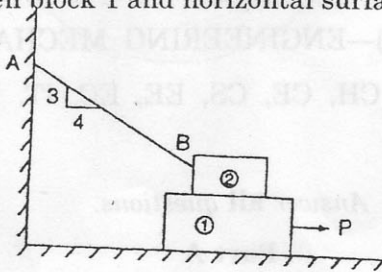

Figure 2
- (b) A block of weight $W_1 = 1290 \text{ N}$ rests on a horizontal surface and supports another block of weight $W_2 = 570 \text{ N}$ on top of it as shown in Fig. 2. Block of weight W_2 is attached to a vertical wall by an inclined string AB. Find the force P applied to the lower block, that will be necessary to cause the slipping to impend. Coefficient of friction between blocks 1 and 2 = 0.25 and coefficient of friction between block 1 and horizontal surface = 0.40.